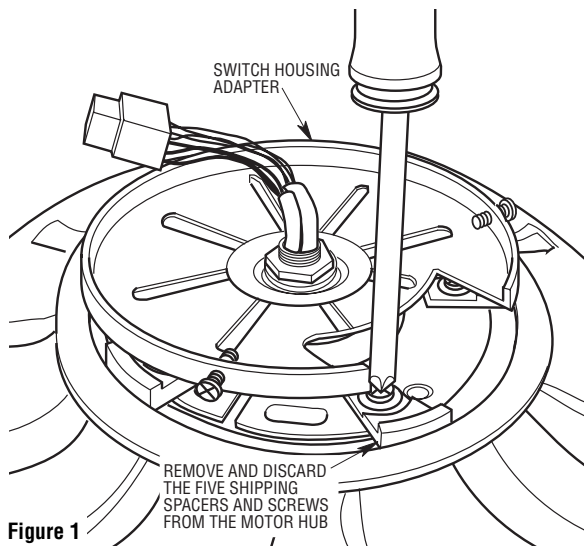

Figure 1
1. Rotate the motor hub to align the hub motor area over each of the five shipping retainers. One by one unscrew each of the five screws and discard screws and shipping retainers (Figure 1).